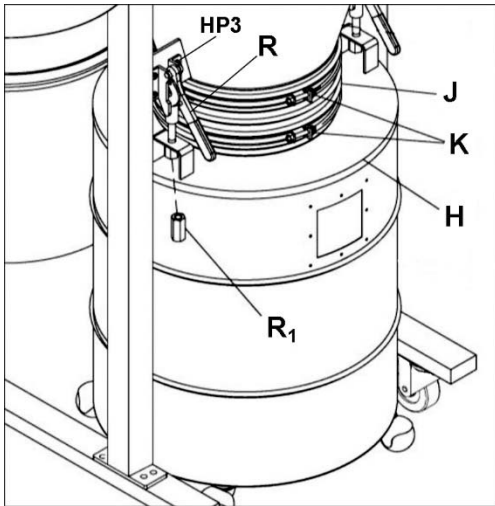

Figure 12
17. Install quick levers into threaded holes on cone flanges, using screws (HP3). See Figure 12
18. Install hose (J) onto cone and drum lid and secure with two hose clamps (K) at top and bottom. See Figure 12.
21. Pull down both quick levers (R, Figure 12) then assemble drum lid (H, Figure 12) to quick levers. Tighten long nut (R₁, Figure 12) onto each quick lever.